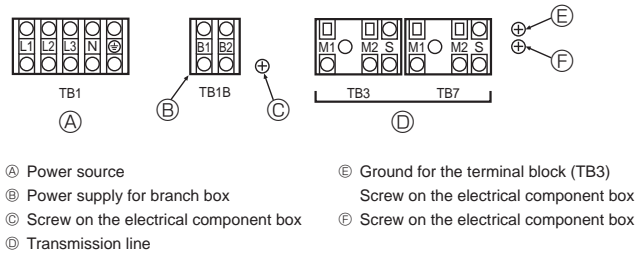

Fig. 6-1
6.2. Control box and connecting position of wiring (Fig. 6-1)
- Connect the wiring between the outdoor unit and the indoor unit or branch box to the transmission terminal block (TB3) of the outdoor unit. Connect the wiring between the outdoor unit and the centralized control system to the transmission terminal block (TB7) of the outdoor unit. When using shielded wiring, connect the ground of the shielded wiring to the shield terminal (S) of the terminal block (TB3) or (TB7). If the connection of the outdoor unit's transmission power supply connector has been changed from CN41 to CN42, connect the shield terminal (S) of the terminal block (TB7) to the screw (F) using the included lead wire.
- The shield (S) terminal of the transmission terminal block (TB3) is connected to the ground (E) when the unit is shipped from the factory.